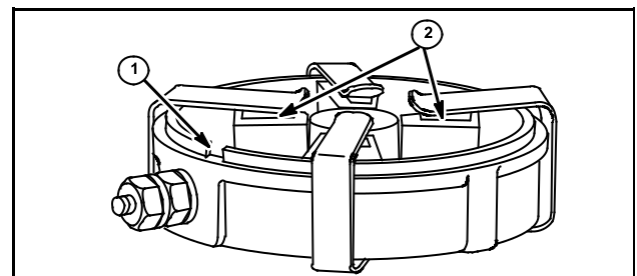

Fig. 84
1. Insert the brushes (2) in their respective holders, and use brush retainers to hold them during reassembly, Fig. 84.
2. Slide the armature into the motor housing, being sure to match the drive end cap keyway (1) to the stamped key in motor housing, Fig. 84.